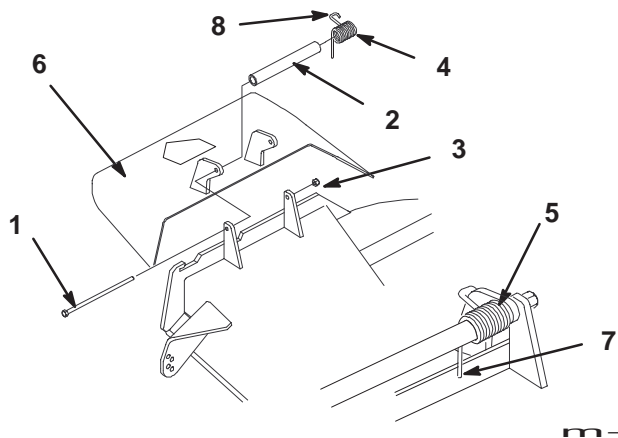

Figure 65
1. Remove the locknut, bolt, spring and spacer holding the deflector to the pivot brackets (Fig.65). Remove damaged or worn grass deflector.
Note: Make sure the straight end of spring is installed behind deck edge before installing the bolt as shown in figure 65.
3. Install bolt and nut. Place hook end of spring around grass deflector (Fig.65).